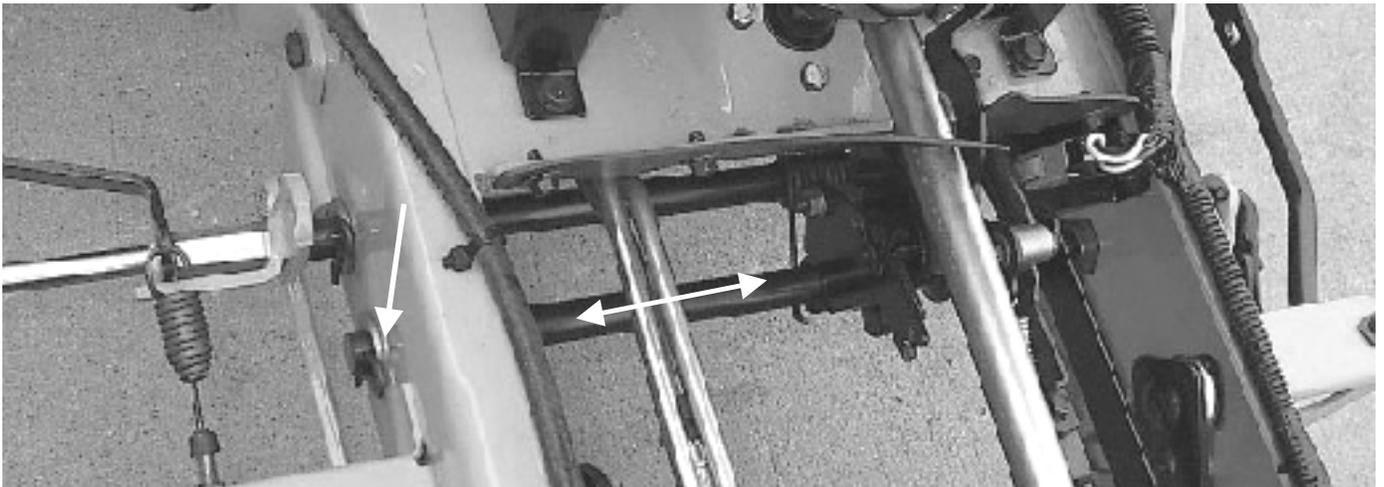

Figure 2
- Grasp the pedal shaft assembly and try to move it side to side. See figure 2. If any excessive side to side movement is noted, remove the cotter pin from the left side of the shaft and install either wave washer 736-0621 or flat washer(s) 736-0287 between the cotter pin and frame bushing to reduce the side to side play. Verify the shaft is free to pivot after the installation of any washers. **THERE SHOULD BE NO BINDING OF THE SHAFT ROTATION!**